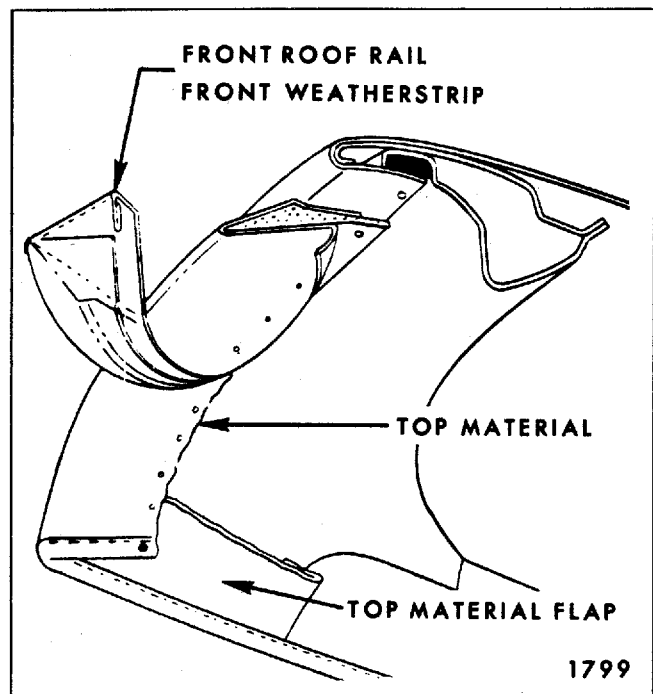

Fig. 6-30—Top Material At Front Roof Rail
50. Apply nitrile cement or neoprene-type weatherstrip adhesive to front flaps and to corresponding areas on side roof front rails. Fasten flaps to side roof front rails. (See Fig. 6-30).
10. Detach top material flaps from side roof front rail (Fig. 6-30).
30. Apply nitrile cement or neoprene-type weatherstrip adhesive to front flaps and to corresponding areas on side roof front rails. Fasten flaps to side roof front rails. (See Fig. 6-30).